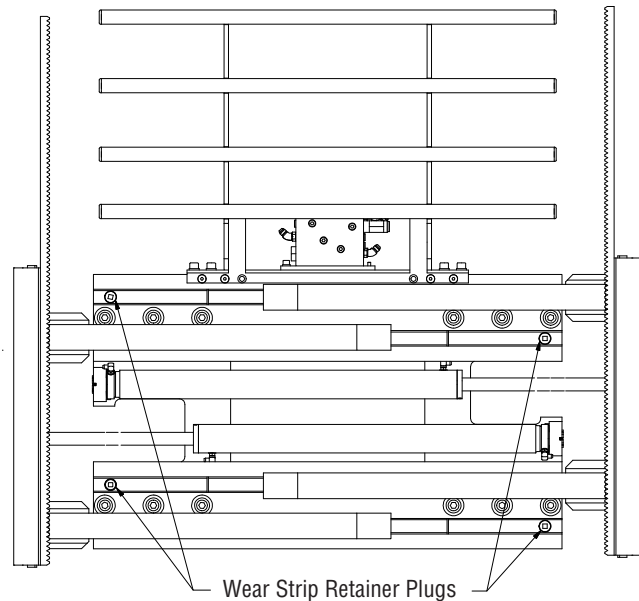

Figure 5-16, Arms Open
3. Turn on the truck's power and extend the arms outside the body. The wear strips where the plugs were removed will then be able to slide out. (Figure 5-16)